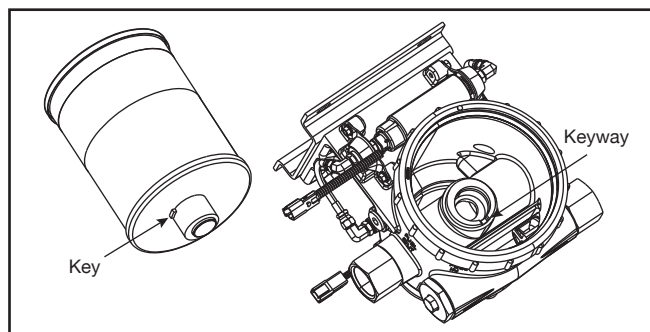

Figure 8 – Key and Keyway
10. Install the new filter element. Figure 8 shows a key of the filter which fits into a keyway on the center boss. Position the filter element so the filter element key is lined up with the keyway on the center boss of the housing and press the filter element into the housing. Ensure the filter element is fully seated by firmly pushing on the end plate.